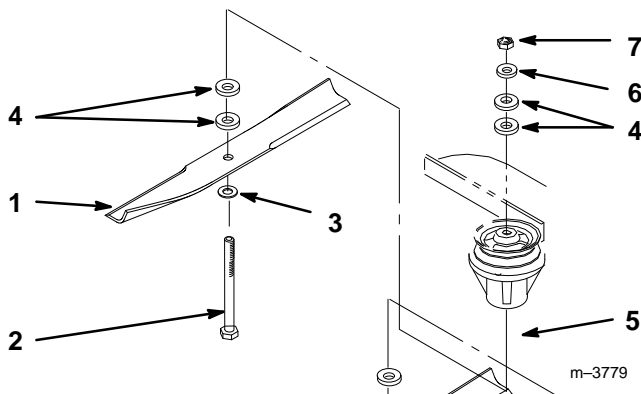

Figure 33
Hold the blade bolt with a wrench. Remove the nut, blade bolt, cone washer, blade, spacers and thin washer from the spindle (Fig. 33).
1. Place the blade onto the bolt, over cone washer. Select proper number of spacer(s) for height-of-cut and slide bolt into spindle (Fig. 33).
2. Install remaining spacer(s) and secure with thin washer and nut (Fig. 33).